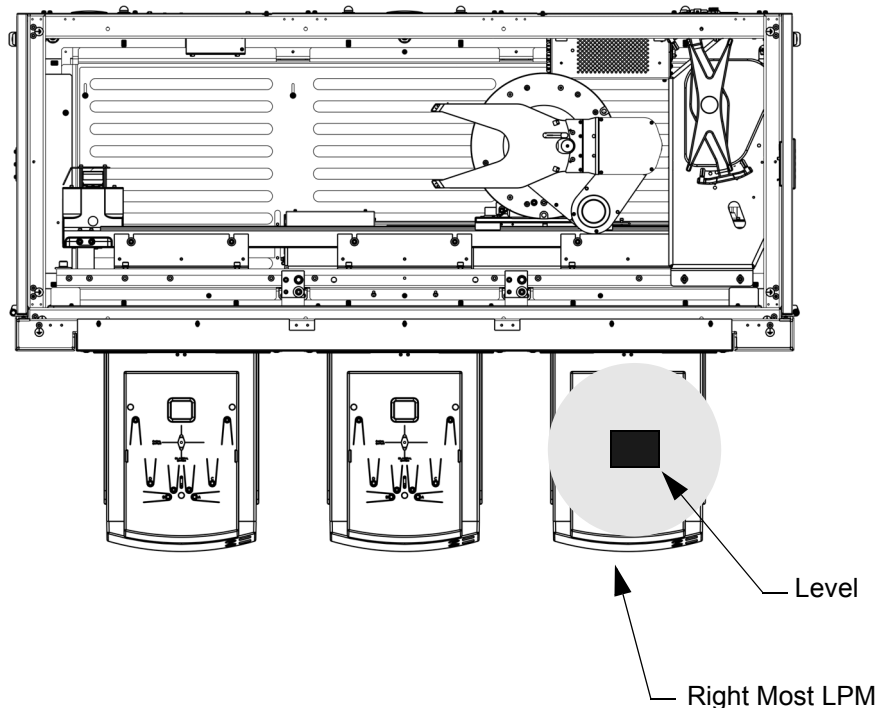

Figure 4-7: Verifying System Pitch and Roll at Robot
5. Move the lower end effector (EE 1) to the far right load port location as shown in Figure 4-7.
6. On a 5-axis robot, rotate the lower end effector (EE 2) out of the way on top of the forearm, as shown in Figure 4-7.
7. Place the MicroTool Electronic Wafer Level on End Effector 1 in the orientation shown in Figure 4-7. Hold the signal wire to the robot wrist using an alligator clip.